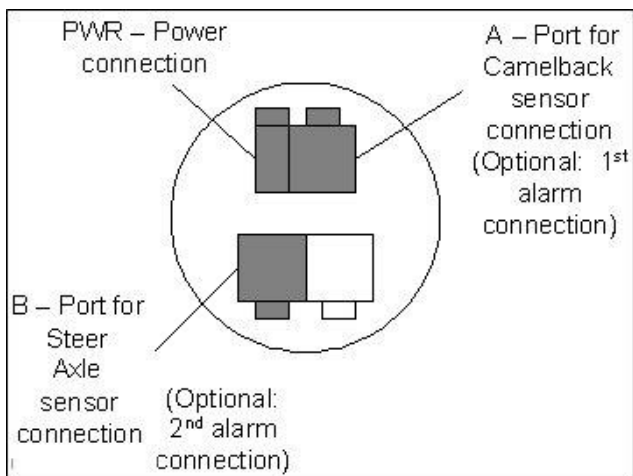

Figure 16. Connections: Steer Axle and Camelback Sensors
- D. Connect the sensor extension cable to Sensor Port A on the back of the QuickLoad display. See Figure 16 for a view of the QuickLoad display sensor connections.